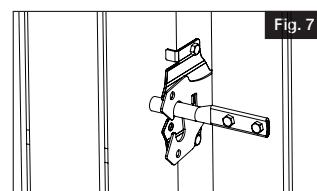

Fig. 7
- b. Install striker to gate with provided screws and tighten (Fig. 7).